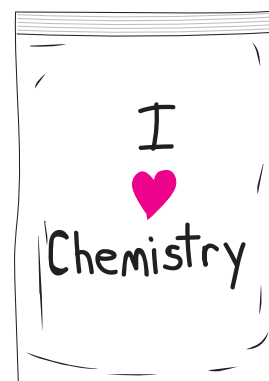

Figure 1.
14. Decorate the bag with permanent markers. See Figure 1 for ideas.